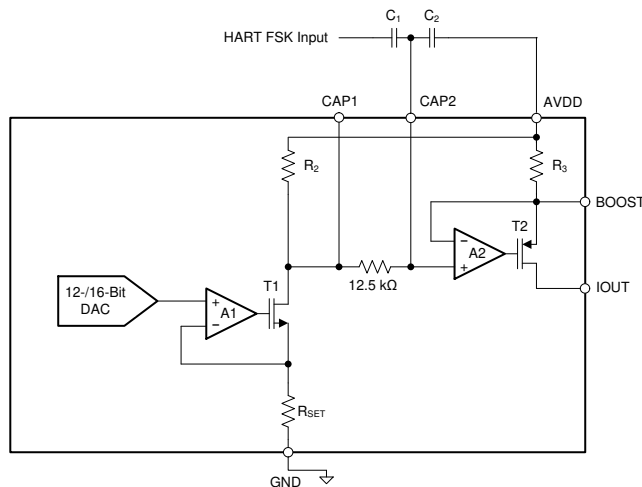

FIG 9-3. Implementing HART on IOUT Using the CAP2 Pin
The first method of implementing HART is to couple the signal through the CAP2 pin, as conceptualized in FIG 9-3. Note that this pin is only available in the 40-pin VQFN package.
In FIG 9-3, R_3 is nominally 40 Ω , and R_2 is dependent on the current output range (set by the RANGE bits) as described below:
1. As is seen in Figure 9-3, CAP2 is directly connected to the input of the final IOUT amplifier. Any noise or unwanted ac signal routed near the CAP1 and/or CAP2 pins could capacitively couple onto internal nodes and affect IOUT. Therefore, with the QFN package, it is important to avoid routing any digital or HART signal trace over the CAP1 and CAP2 traces.